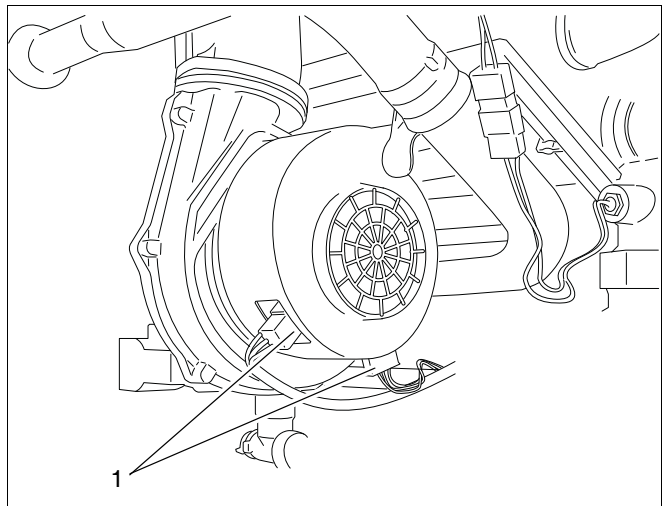

fig. 43 Disconnect the cable plug from the fan unit
- Remove both cable plugs from the fan unit (see fig. 43, pos. 1).